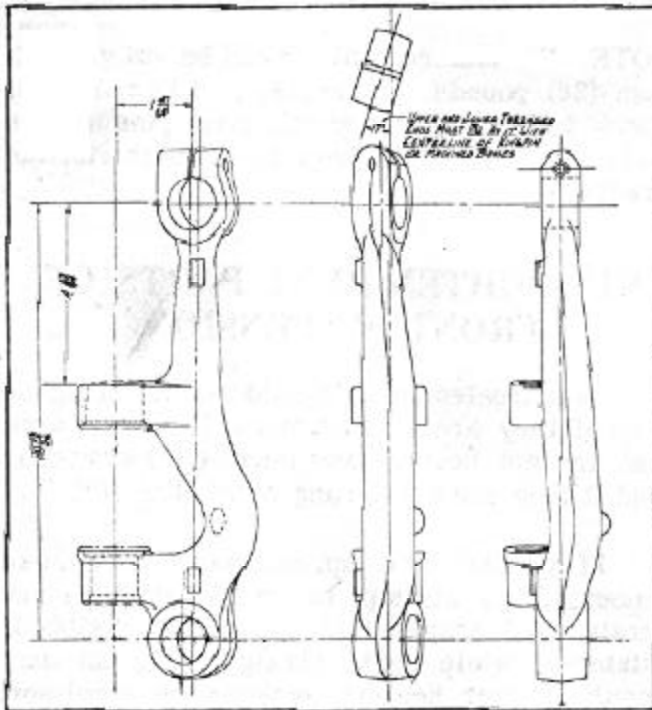

FIGURE 20
5. Steering spindle or spindle support bent. Refer to Figures 20 and 21.
5. Correct caster, camber, and toe-in. Check steering spindle, spindle support, or steering arm to determine if these parts are damaged. Refer to Figures 20 and 21.